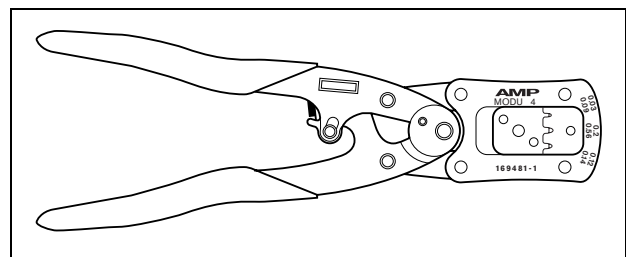

figure 16.11: Tyco AMP Modu 4 169481-1 pliers
- Tyco AMP Modu 4 169481-1 pliers (see figure 16.11)